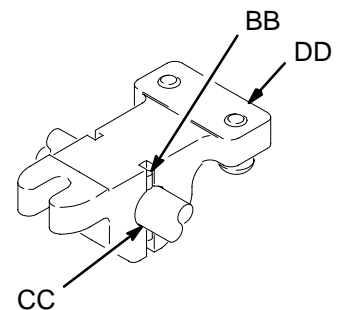

Fig. 6
**NOTE:** For added positioning reliability, the mounting bracket (DD) has an 1/8 inch (3.2 mm) slot where a locating pin (BB—not included) can be inserted through the mounting rod (CC). See Fig. 6.